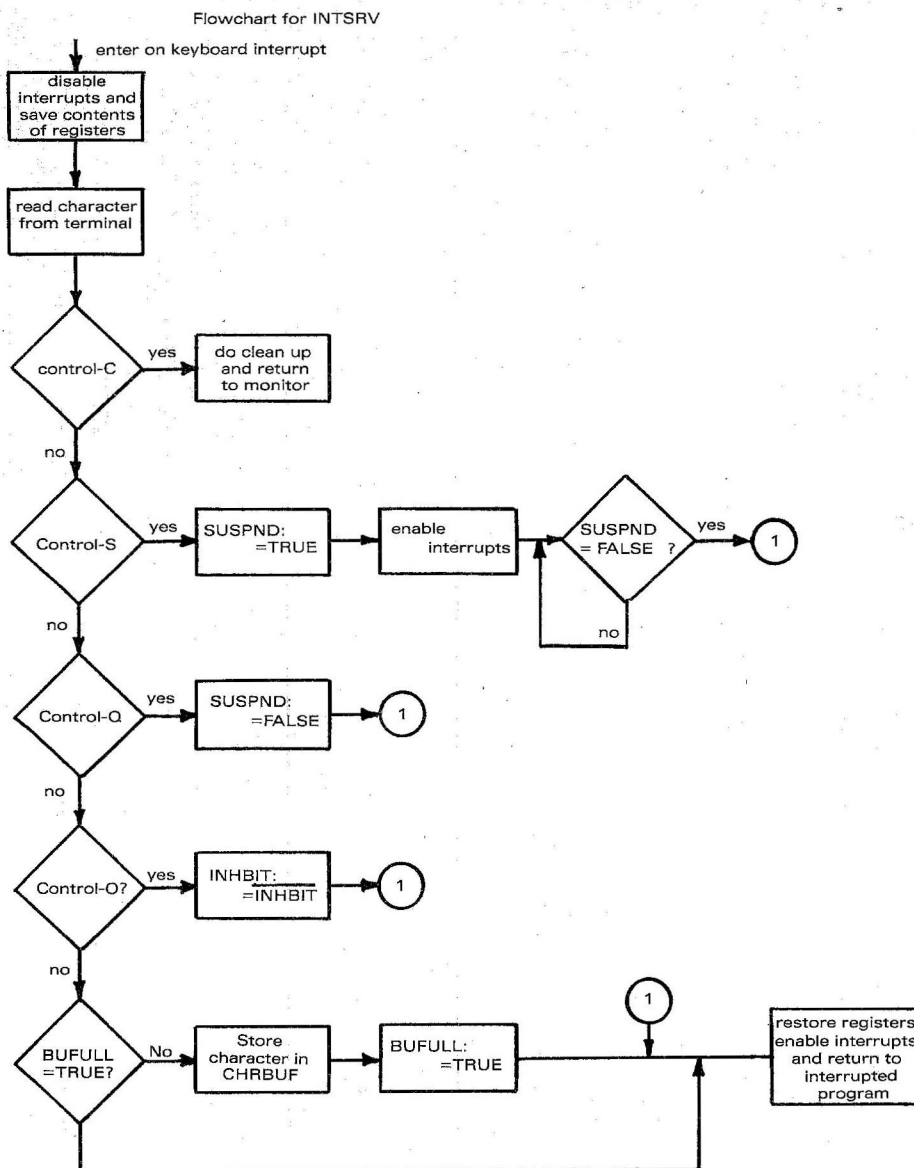

Figure 2
1. INTSRV - The interrupt service routine (See Figure 2.)